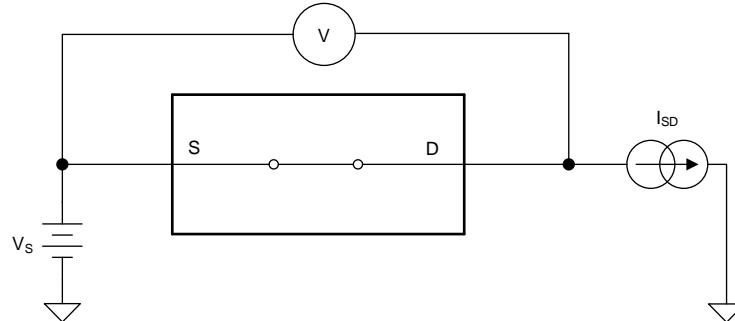

图 16. On-Resistance measurement setup
The on-resistance of a device is the ohmic resistance between the source (S) and drain (D) pins of the device. The on-resistance varies with input voltage and supply voltage. The symbol R_{ON} is used to denote on-resistance. The measurement setup used to measure R_{ON} is shown in 图 16. Voltage (V) and current (I_{SD}) are measured using this setup, and R_{ON} is computed with $R_{ON} = V / I_{SD}$: